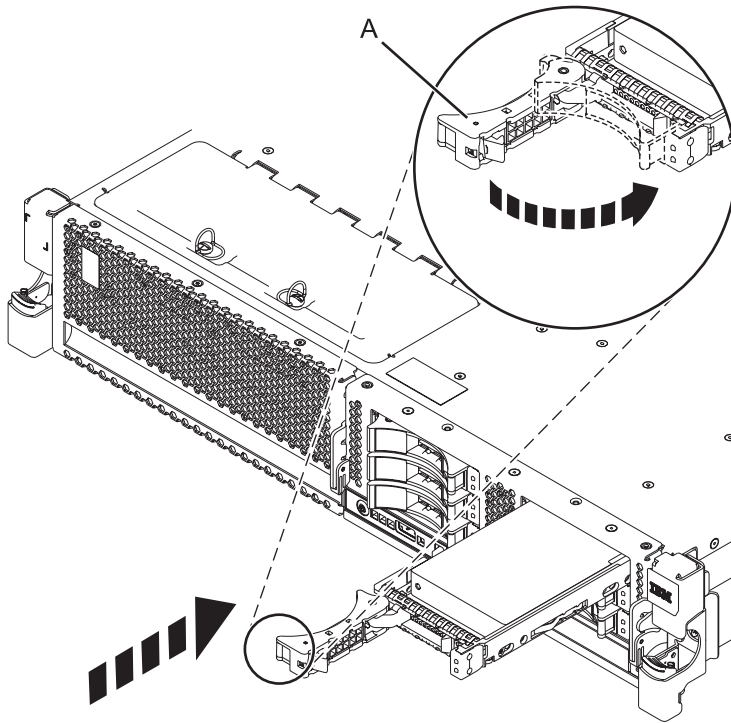

Figure 6. Installing the disk drive in the system
- When the identify LED flashes, slide the drive all the way into the system or an expansion unit, and push the drive handle (A) in until it locks, as shown in Figure 6.